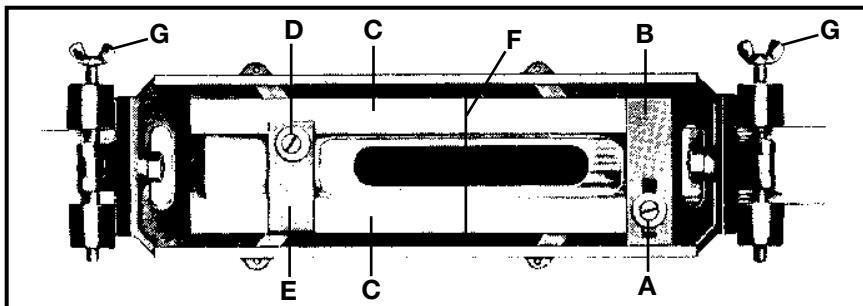

Fig. 12
1. Loosen locking screw (A), Fig. 12.
2. Adjust side guides (C), Fig. 12, so the space between them is  $\frac{1}{8}$ " (3.2 mm) wider than the lock face.
3. Firmly tighten screw (A).
4. Loosen locking screw (D), Fig. 12.
5. Adjust guide bar (E), Fig. 12, distance between (E) and (B) is  $\frac{1}{8}$ " (3.2 mm) longer than the lock face.
6. Firmly tighten screw (D).
2. Draw line (F), Fig. 12, on the templet side guides (C), midway between bars (B) and (E).
3. Position templet on door so line (F) on templet matches line drawn on the door edge at the center of the mortise cut.
4. Tighten the two wing screws (G), Fig. 12 to lock templet in place.